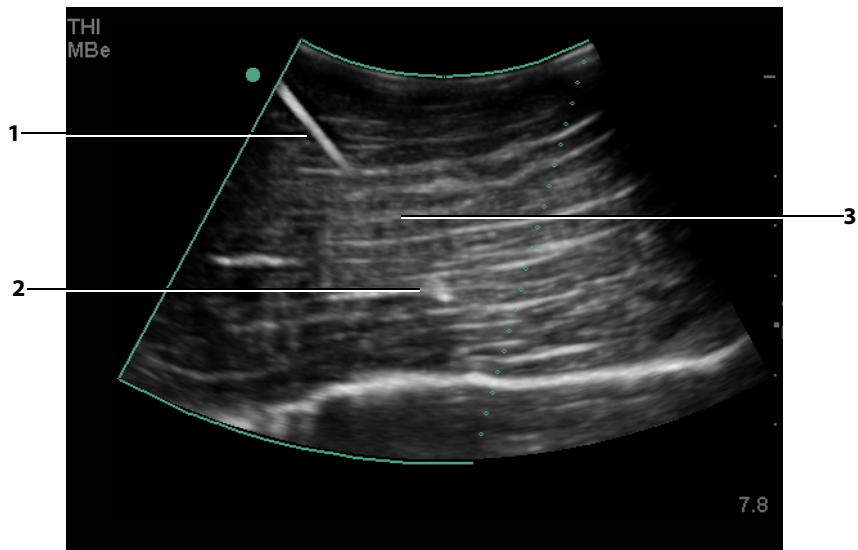

Figure 3: With a curved array transducer, only segments of the needle shaft may show:
- Note that the beam divergence of a curved array transducer may prevent a segment of the needle shaft from showing in the image. (See Figure 3.) The needle tip may not show.
For curved array transducers, MBe can help identify the direction of the needle, although only segments of the needle shaft may show in the image. (See Figure 3.) Use movement and fluid injection to help verify the needle-tip location.